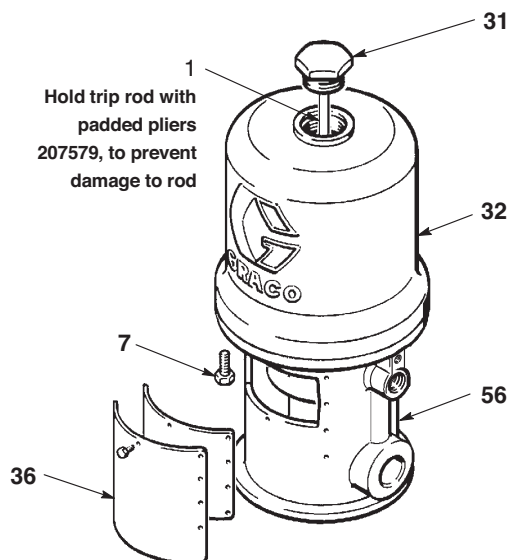

FIG. 4
3. Manually push on the piston rod to move the piston assembly to the top of its stroke. Unscrew the cylinder cap nut (31) from the cylinder (32). Pull up on the cap nut. Grip the trip rod (1) with a padded pliers, 207579, and screw the cap nut off the trip rod. (FIG. 4)
4. Remove the eight screws (7) holding the cylinder (32) to the base (56). Carefully pull the cylinder straight up off the piston. (FIG. 4)